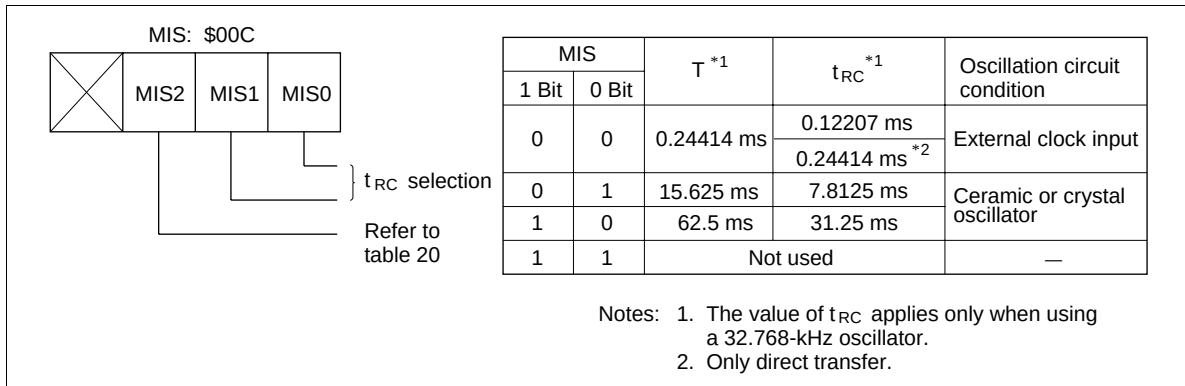

Figure 13 Miscellaneous Register
Interrupt Frame: In watch and subactive modes, ϕ_{CLK} is supplied for timer A and the $\overline{\text{INT}}_0$ circuit. Prescaler W and timer A operate as time bases to generate interrupt frame timing. Three interrupt frame cycles (T) can be selected by the settings of the miscellaneous register, as shown in figure 13.